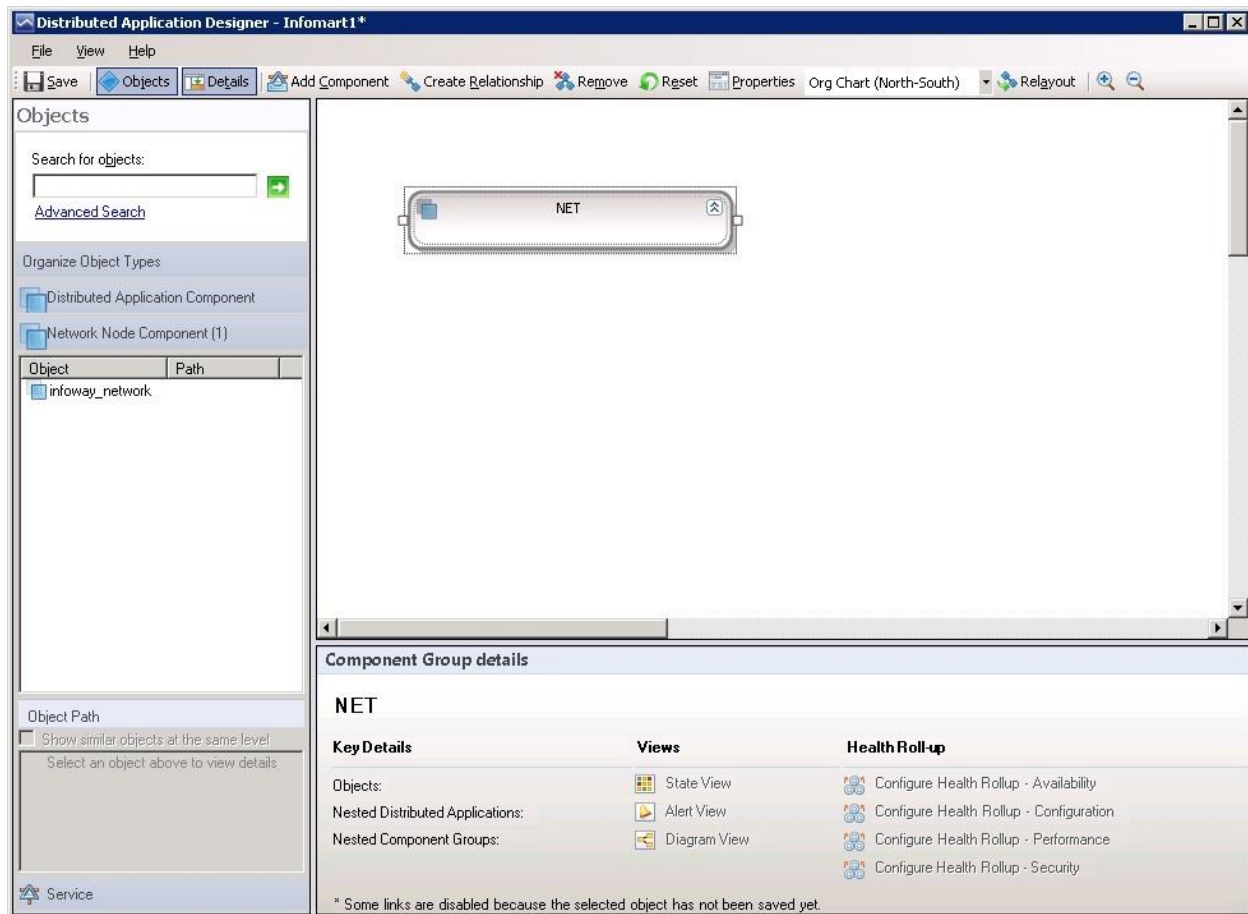
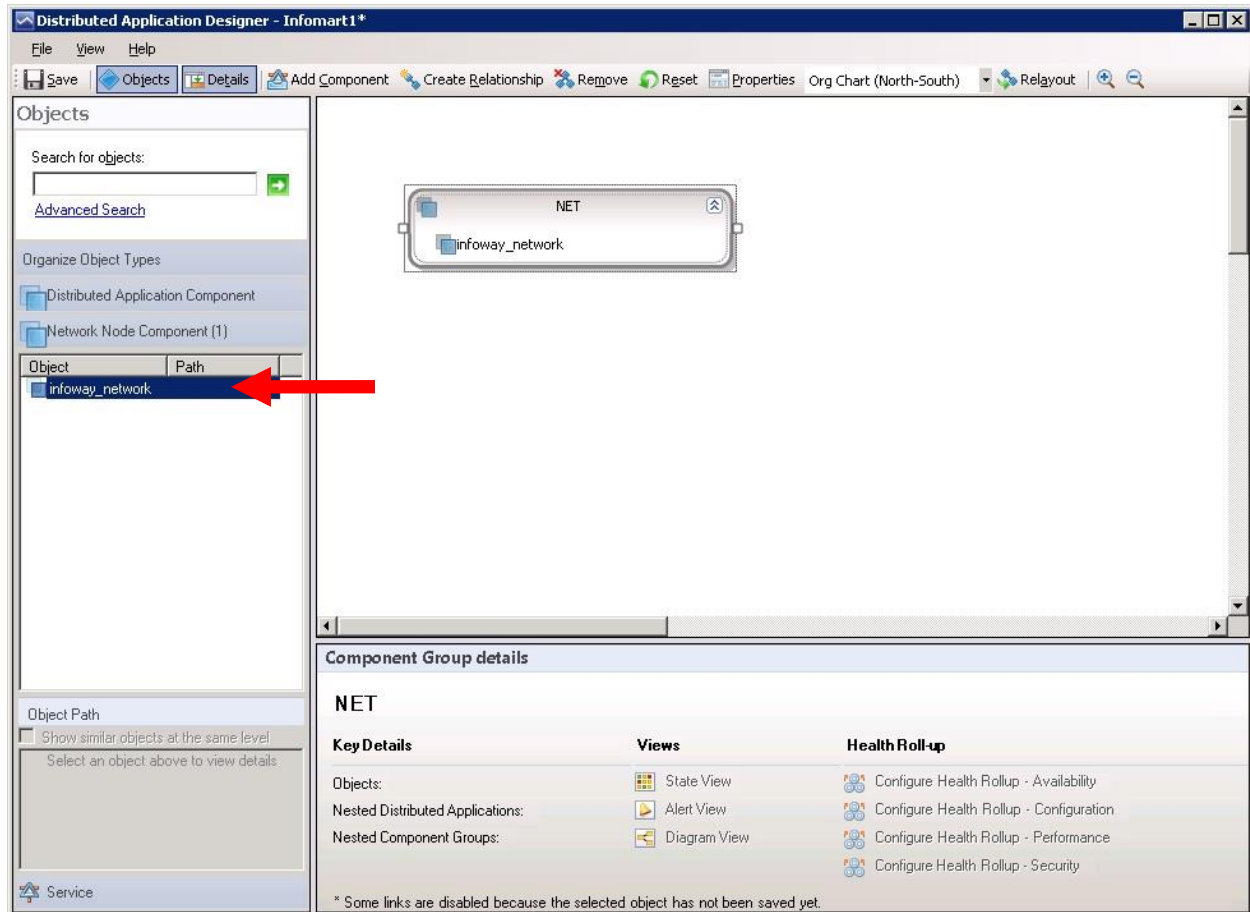
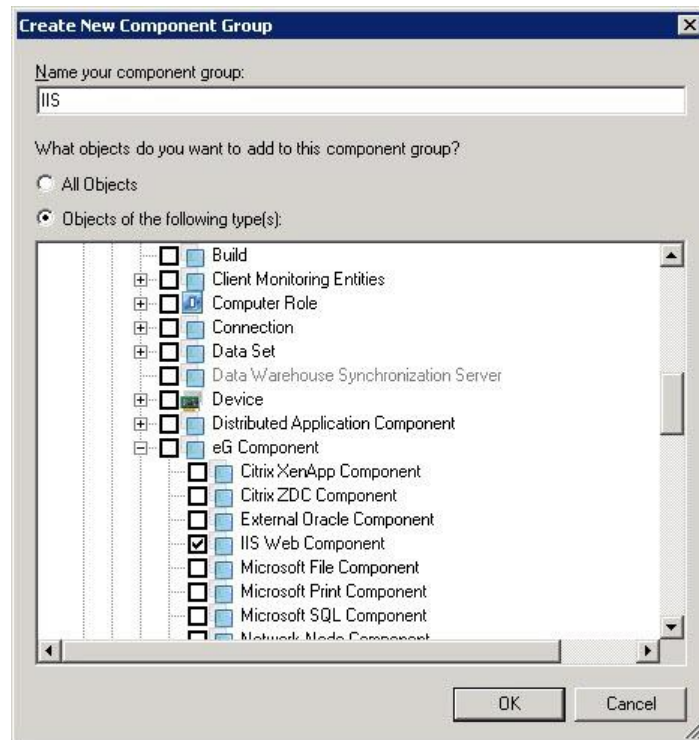

Figure 3.30: The newly added Network Node Component group appearing in the Designer window
Figure 3.31: Adding the *infoway_network* component to the NET component group you created
Figure 3.32: Creating an IIS Web Component group
7. This will invoke Figure 3.30. In the **Distributed Application Designer** window of Figure 3.30, you will find a 'box' representing the new **NET** component group that you just added.
8. Next, click on the **Network Node Component** section in the left panel of Figure 3.30 (as indicated), to view all the eG-managed network nodes. From the list that appears beneath, select the *infoway_network* component, drag it, and drop it into the **NET** box in the right panel (see Figure 3.31).
9. With that, the **Network Node Component** group has been created, and the *infoway_network* component has been added to it. The next step is to create the IIS web server component and configure a relationship between the network node and the web server. For this, click on the **Add Component** button in Figure 3.31 again. When the **Create New Component Group** dialog box of Figure 3.32 appears, name the new component group as **IIS**, select the **Object of the following type(s)** option, scroll down the object type list, expand the **eG Component** node, and select the **IIS Web Component** group.